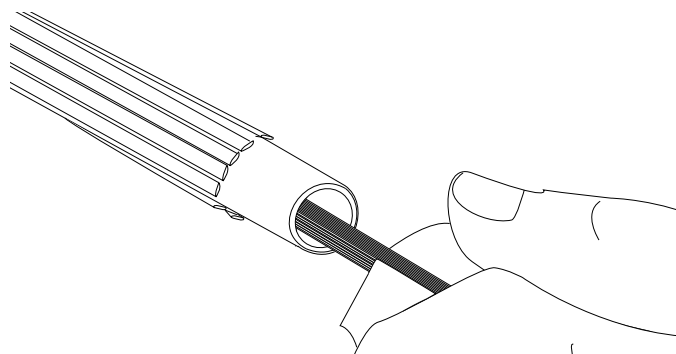

Figure 11
**5.4** Use a tissue soaked in filling compound remover to wipe the filling compound from each of the ribbons (Figure 11). Use a dry tissue for final cleaning.